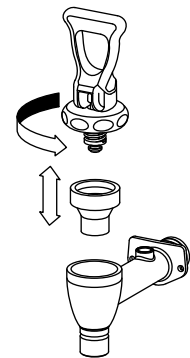

Fig. 5
7.3.1 Cleaning the tap (Fig. 5)